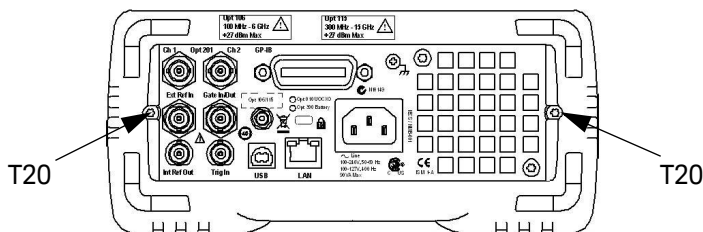

Figure 3-2 Rear Bezel And Cover Removal
- 3 To remove the rear bezel and cover, loosen the captive screws on the sides as shown in **Figure 3-2**, using the TORX T20 screwdriver.